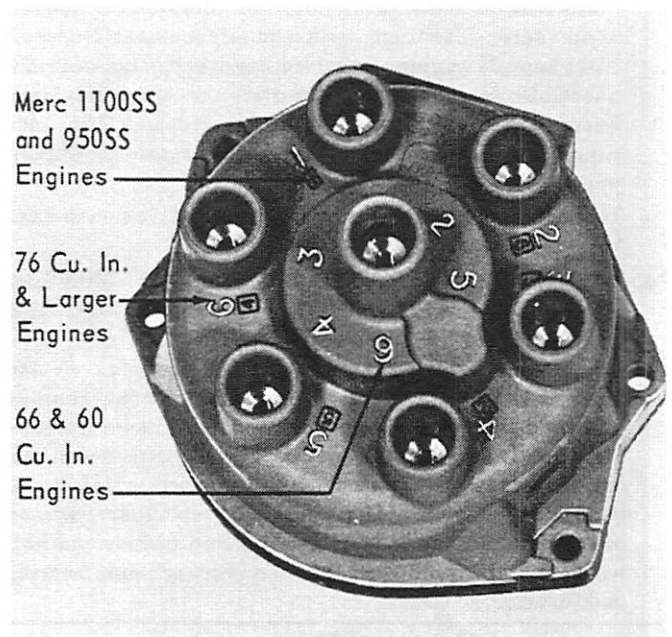

Figure 8. Distributor Cap for 6-Cylinder Engines
- a. If replacing one of 6 spark plug high tension leads (3 long and 3 short), thread lead into distributor housing. Be sure of correct sequence so that wires will be long enough. (Figure 8)
- b. Hi-tension lead for coil No. 1 threads into center terminal of distributor housing and hi-tension lead coil No. 2 to side inlet assembly. (Figure 8)